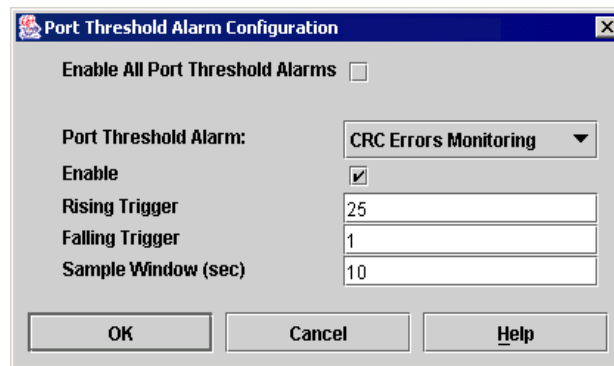

Figure 4-7. Port Threshold Alarm Configuration Dialog
1. In the faceplate display, open the Switch menu and select **Port Threshold Alarm Configuration**. The **Port Threshold Alarm Configuration** dialog shown in Figure 4-7 prompts you to enable or disable all alarms, select an event, set triggers, set a sample window and enable or disable an individual alarm.